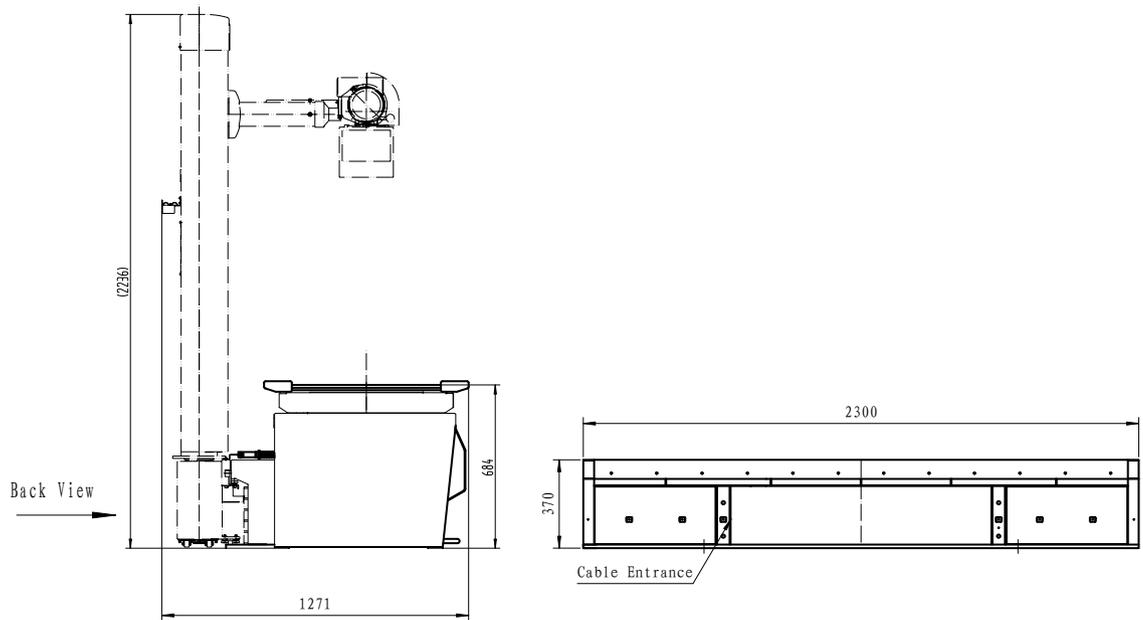
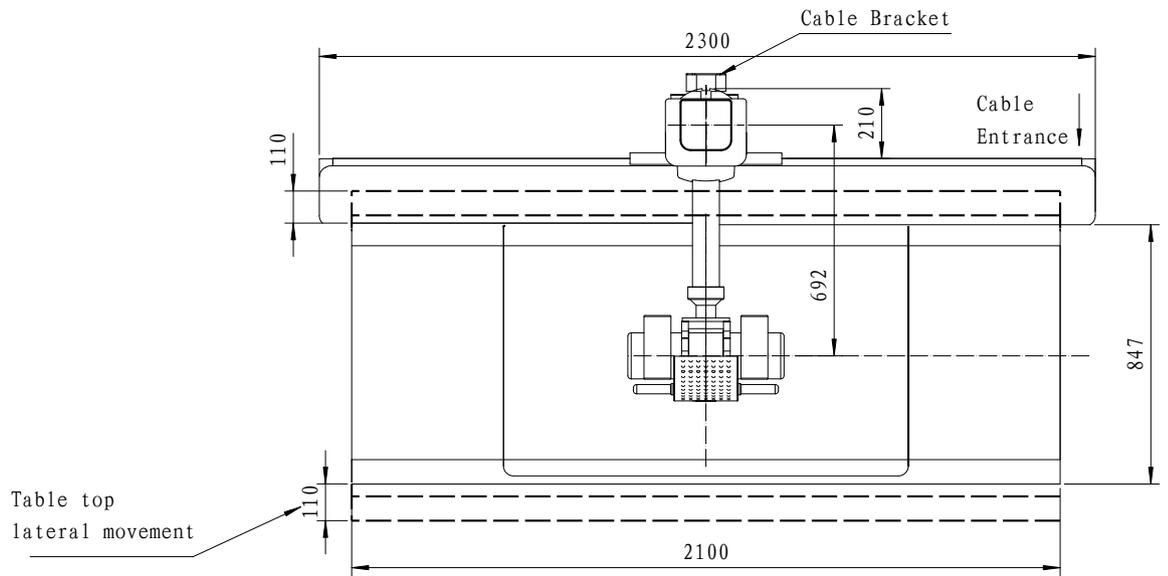

Figure 5-3 Integrated Table Side View
Figure 5-5 Integrated Table Top View
- Integrated Table - Figure 5-3 through Figure 5-5.